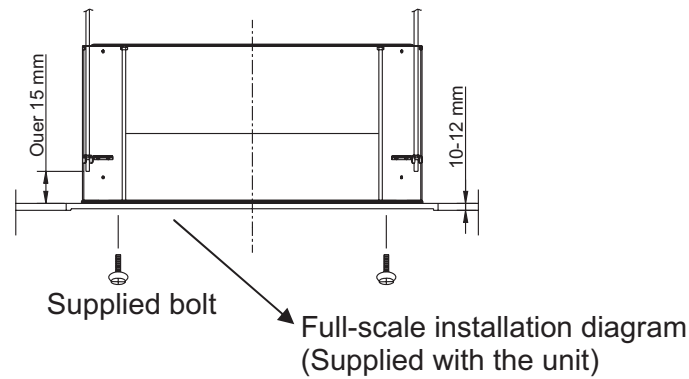

Fig.8
- The length of suspension bolts must be appropriate for a distance between the bottom of the bolt and the bottom of the unit of more than 15mm as shown in Fig.8